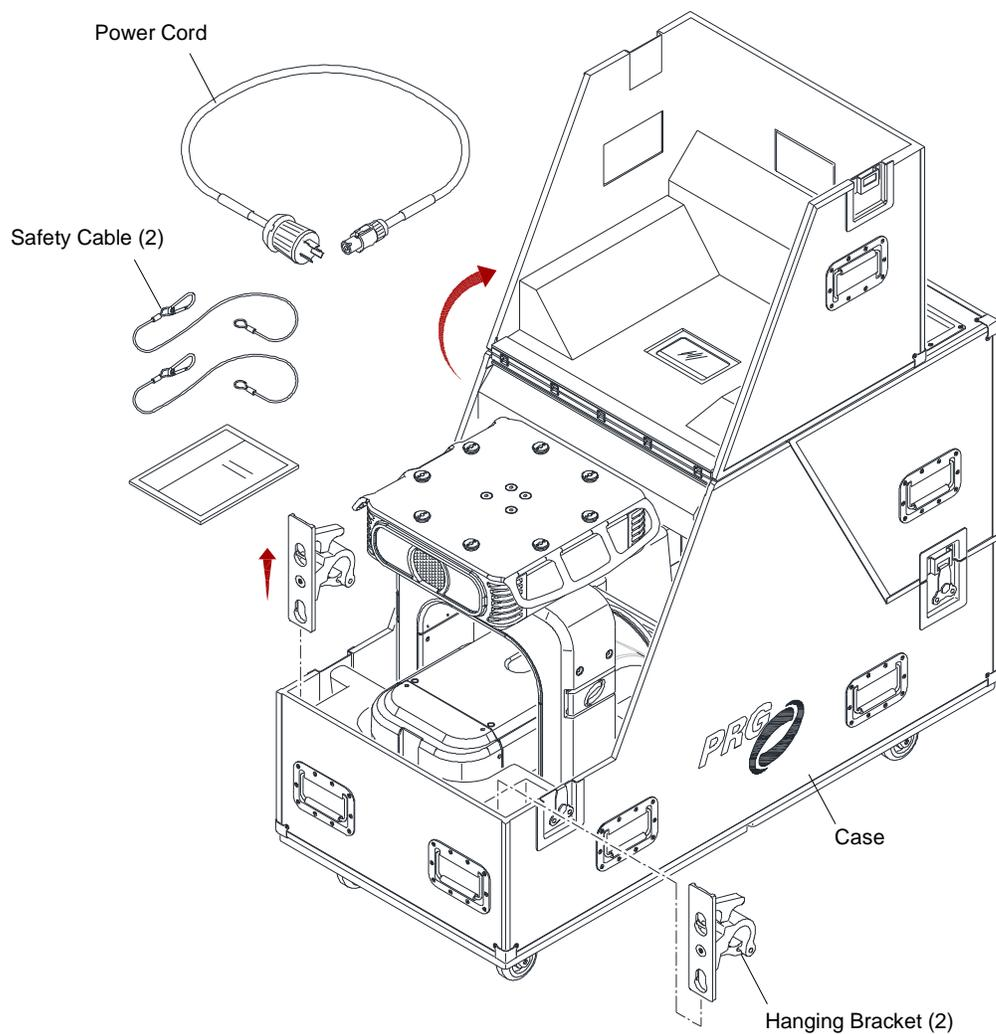

Figure 2-2: Unpacking Road Case
- Step 1. Unlatch case lid and tilt upward as shown in **Figure 2-2**.
- Step 1. Unpack case as shown in **Figure 2-2** on page 13, but do not remove hanging brackets. (These are not used for standing installations.)